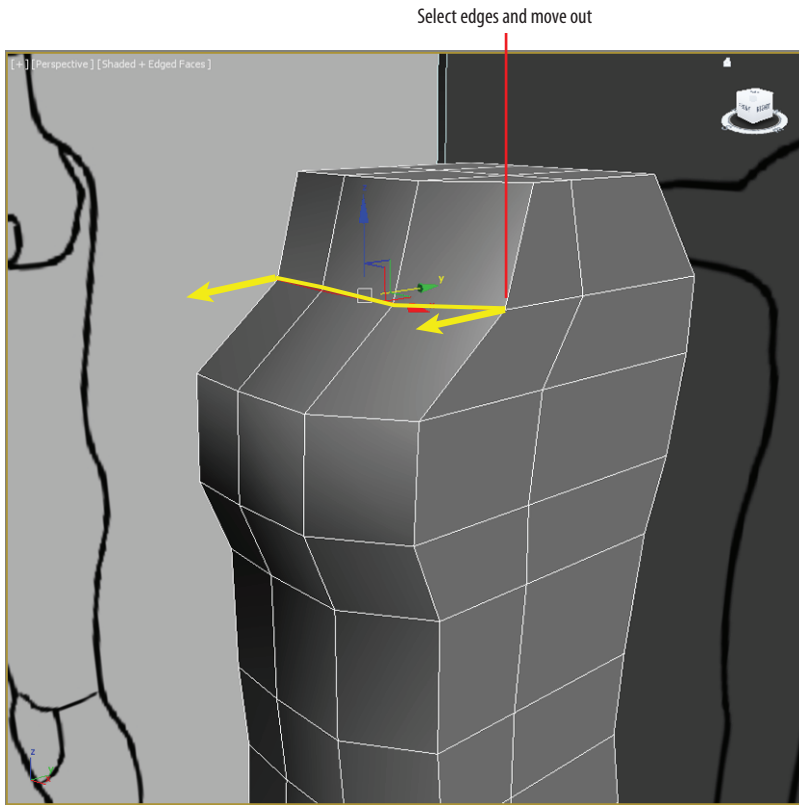

FIGURE 7.9 Ctrl+click the three edges on the front of the torso and move them out.
12. While still in Edge mode, Ctrl+click to select the three edges on the front of the torso (the line of edges one down from the top edge) and move them out, as shown in Figure 7.9.